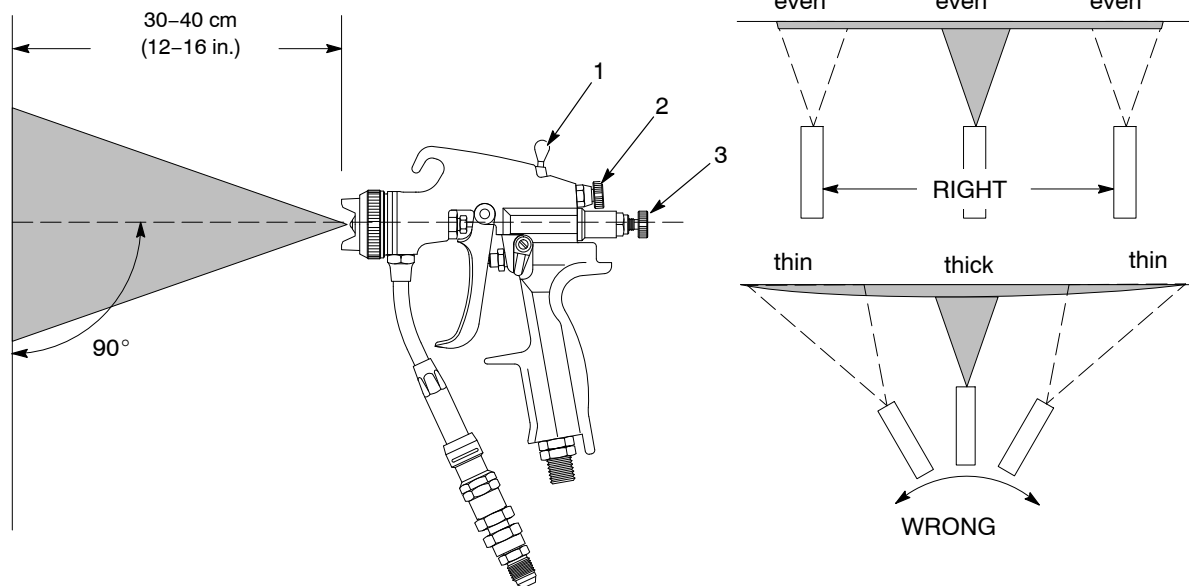

Figure 3 Proper Gun Orientation While Spraying
See Figure 3. Rotate the atomizing air regulator (1) to the right (clockwise) to decrease air flow; to the left (counterclockwise) to increase air flow.
See Figure 3. Rotate the fan pattern regulator (2) to the right (clockwise) to decrease air flow; to the left (counterclockwise) to increase air flow. At minimum flow, the pattern is flat; at maximum flow the pattern is round.
See Figure 3. Use these tips to help you obtain a quality coating:
See Figure 3. The adjusting screw (3) adjusts the trigger spring pressure to compensate for the fluid pressure: The spring force is adjustable for pressures of approximately 80–250 bar (1160–3625 PSI).